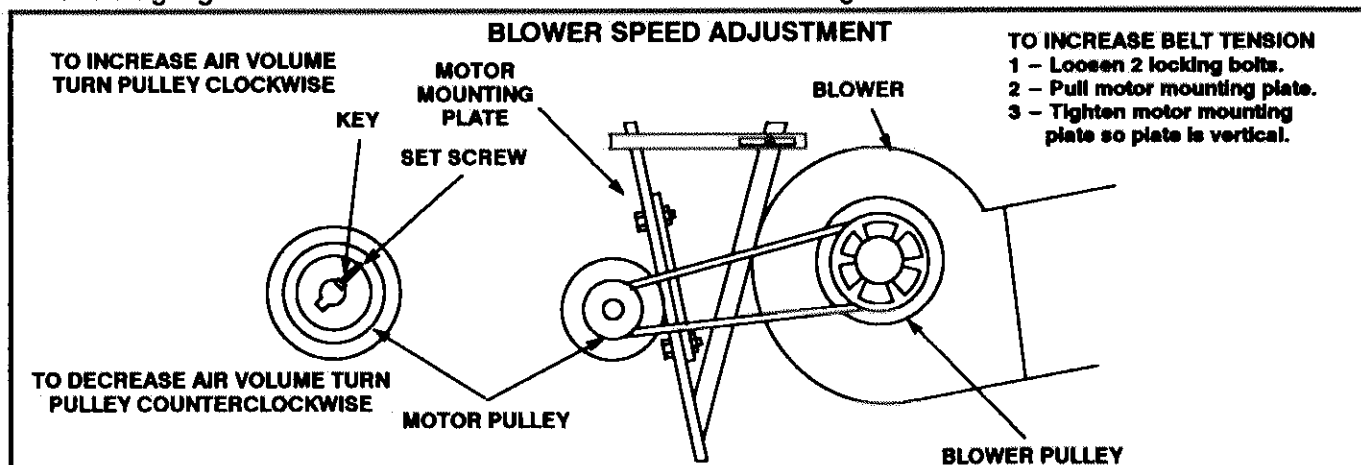

FIGURE 13
- 2— Loosen the set screws on motor pulley and remove key as shown in figure 13.